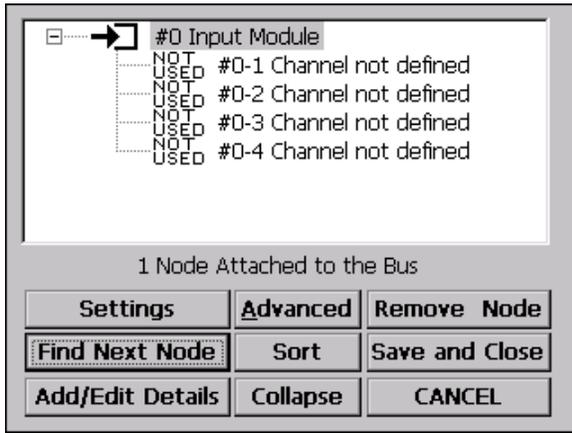

FIGURE 5.4 Input node open indicating its four undefined channels.
6. The panel will search the bus for the ONE node that has its ID switch ON. The node with the ID switch ON will appear in the menu screen with its 4 open channels "opened", in this case, the input node. Refer to figure 5.4.
9. The node in figure 5.4 appears with its 4 channels "open". Click on the COLLAPSE button to close the node, if desired.